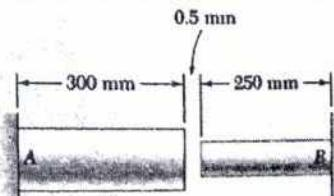

Figure 1
- Q1** At room temperature (20°C) a 0.5 mm gap exists between the ends of the rods as shown in Figure 1. The rod A is made of aluminium whose area is 2000 mm^2 , $E = 75 \text{ GPa}$, and $\alpha = 23 \times 10^{-6} /^{\circ}\text{C}$. The rod B is made of steel whose area is 800 mm^2 , $E = 190 \text{ GPa}$, and $\alpha = 17.3 \times 10^{-6} /^{\circ}\text{C}$. At a later time when the temperature has reached 140°C , determine (a) the normal stress in the Aluminium rod, (b) the change in the length of the aluminium rod. (12)